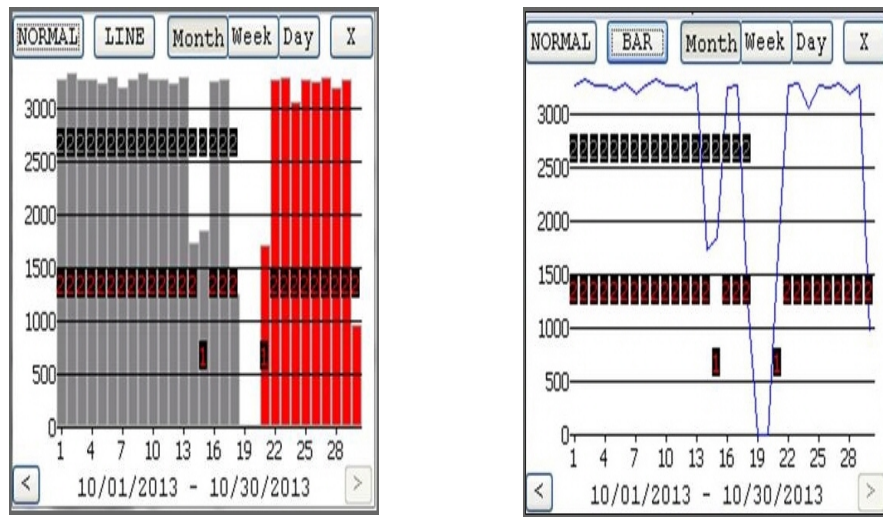

Figure 27 – Examples of Data Logging Graphs
3. Click **GRAPH** to display the data in a graph. See examples of graphs in Figure 27 on page 26.